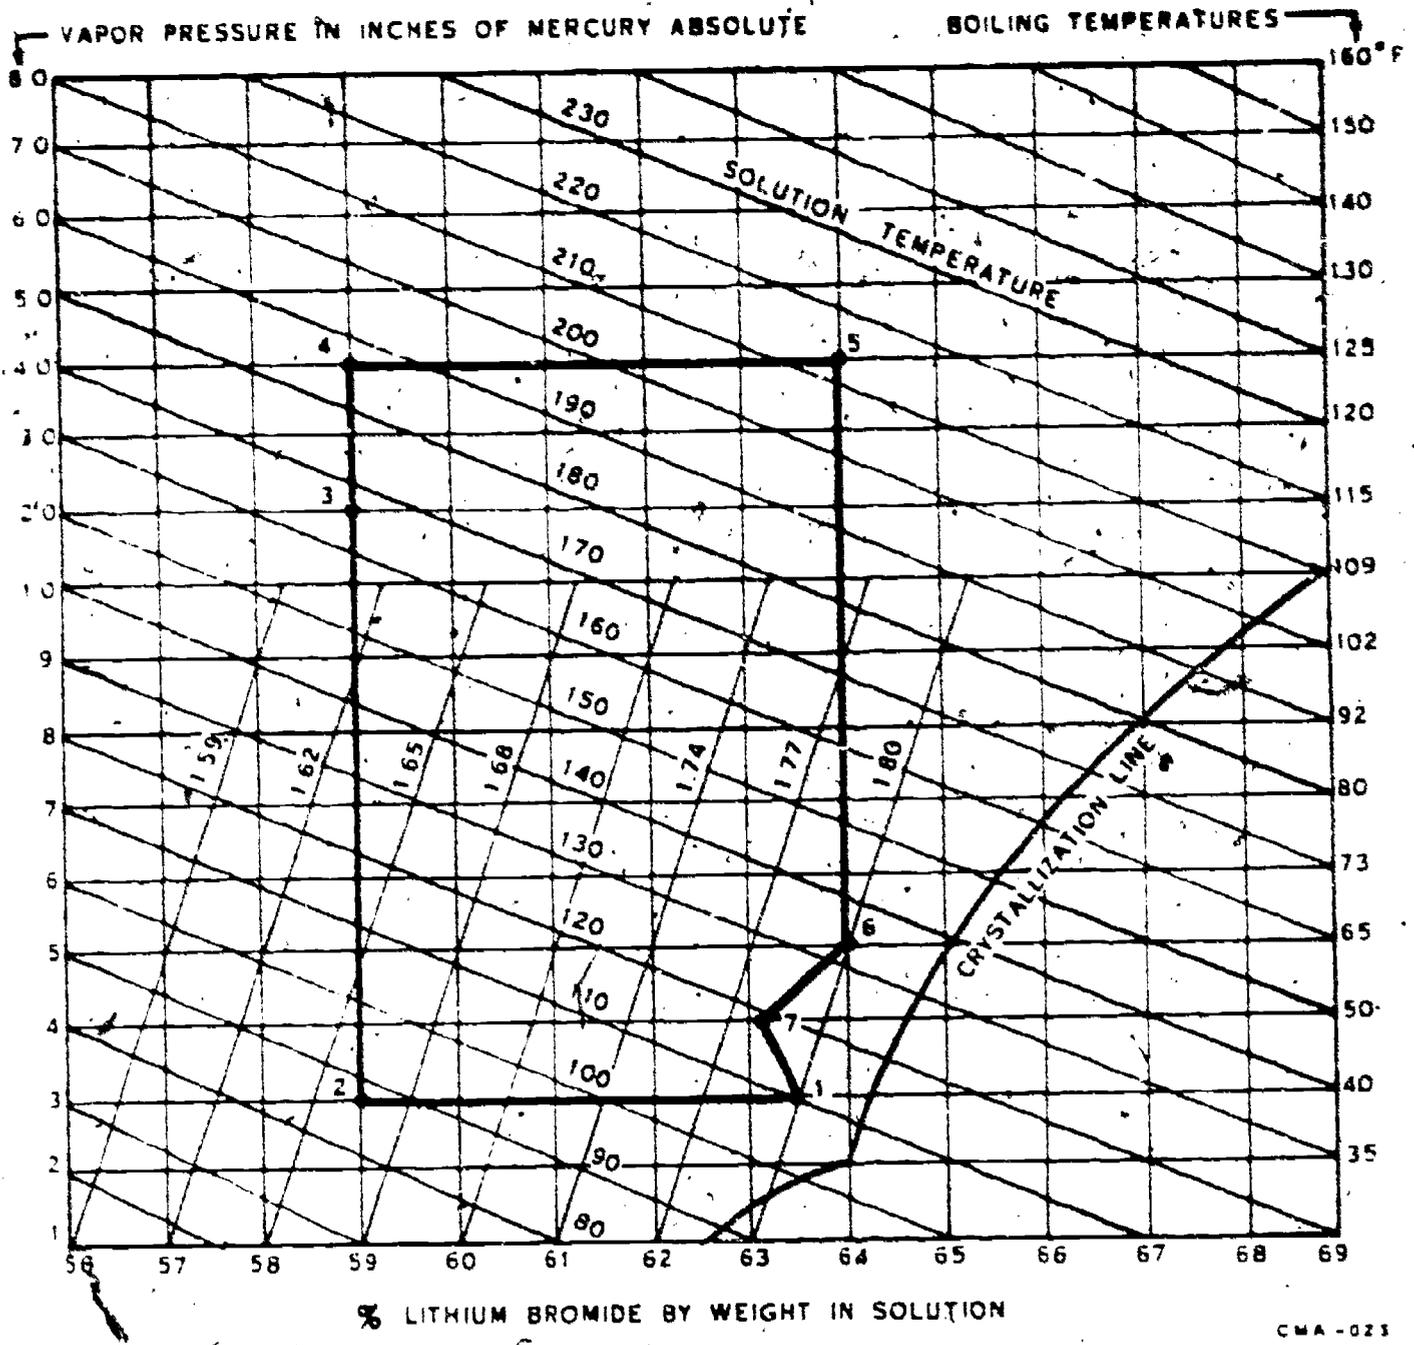

Figure 10. Equilibrium Diagram
1. Use the equilibrium diagram in figure 10.